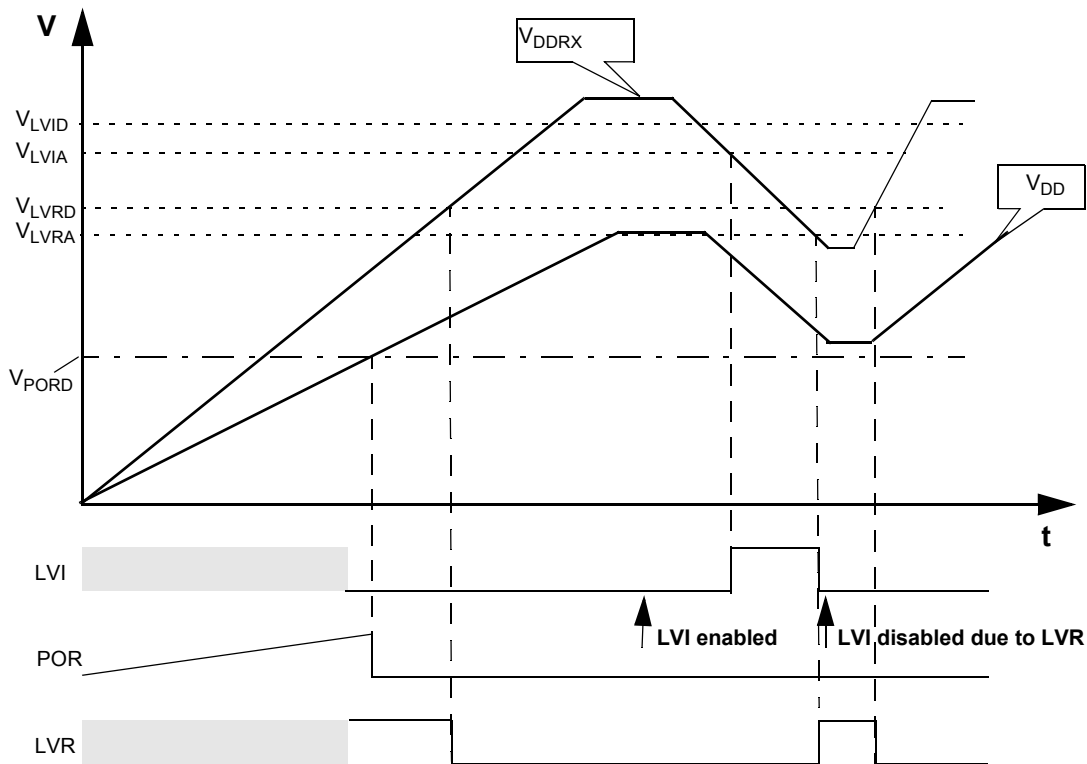

Figure 7. Chip power-up and voltage drops OSCLCPcr electrical specifications
56. Monitors VDDR $\bar{X}$ , active only in Full Performance mode. MCU is monitored by the POR in RPM (see Figure 7)
58. Monitors VDDR $\bar{X}$ , active only in Full Performance mode.  $V_{LVRA}$  and  $V_{PORD}$  must overlap (see Figure 7)